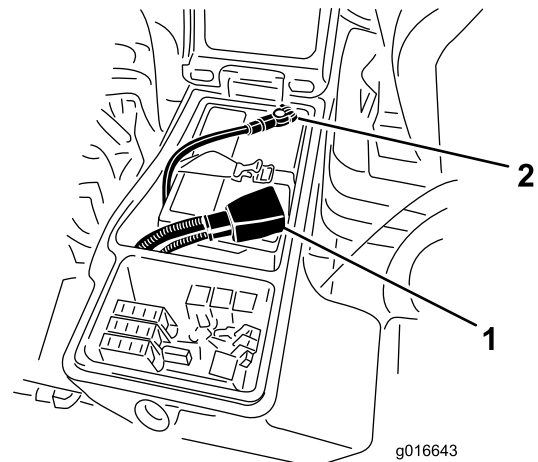

Figure 95
6. Install the positive cable (red) to the positive (+) terminal and the negative cable (black) to the negative (-) terminal of the battery (Figure 95).